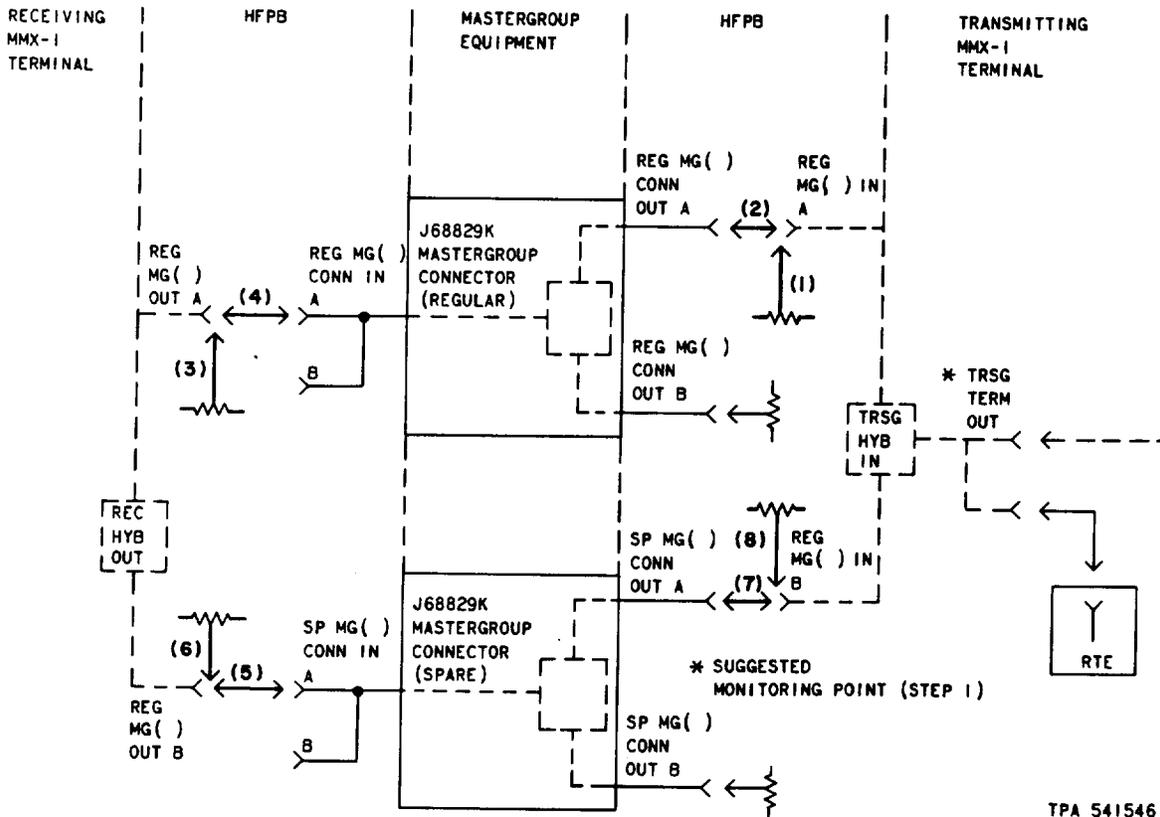

Fig. 2—Restoring Regular Equipment to Service—Patching Procedure
12	At the transmitting and receiving high-frequency patch bays, locate the jacks associated with the regular and spare equipment to be patched. At the transmitting MG-HFPB, <ol style="list-style-type: none"> <li>(a) Remove the 358B plug (75-ohm termination) from the REG MG( ) IN A jack [patch (1), Fig. 2].</li> <li>(b) Insert a 372A plug (through connection) into the REG MG( ) IN A and REG MG( ) CONN OUT A jacks [patch (2), Fig. 2].</li> </ol>
13	At the receiving MG-HFPB, <ol style="list-style-type: none"> <li>(a) Remove the 358B plug from the REG MG( ) OUT A jack [patch (3), Fig. 2].</li> <li>(b) Insert a 372A plug into the REG MG( ) OUT A and REG MG( ) CONN IN A jacks [patch (4), Fig. 2].</li> </ol>
15	<p>Requirement: Approximately a 3-dB increase in power</p> <p>At the receiving MG-HFPB,</p> <p>(a) Remove the 372A plug from the REG MG( ) OUT B and the SP MG( ) CONN IN A jacks [patch (5), Fig. 2].</p> <p>(b) Insert a 358B plug into the REG MG( ) OUT B jack [patch (6), Fig. 2].</p>
16	<p>At the transmitting MG-HFPB,</p> <p>(a) Remove the 372A plug from the REG MG( ) IN B and SP MG( ) CONN OUT A jacks [patch (7), Fig. 2].</p> <p>(b) Insert a 358B plug into the REG MG( ) IN B jack [patch (8), Fig. 2].</p>